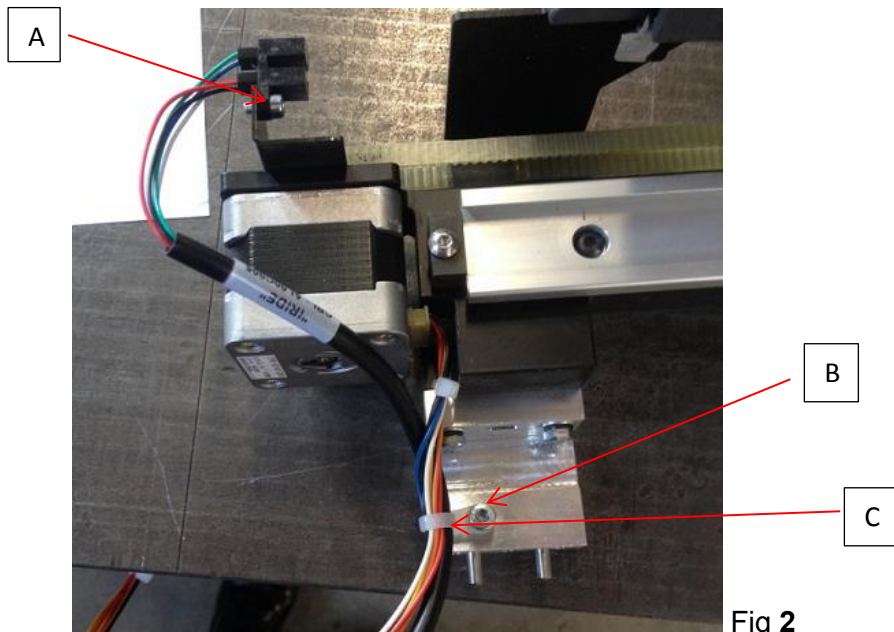

Fig 2
4. As shown in fig. 2, remove screw **A)** and screw **B)**. Then, cut the plastic cable tie **C)**.